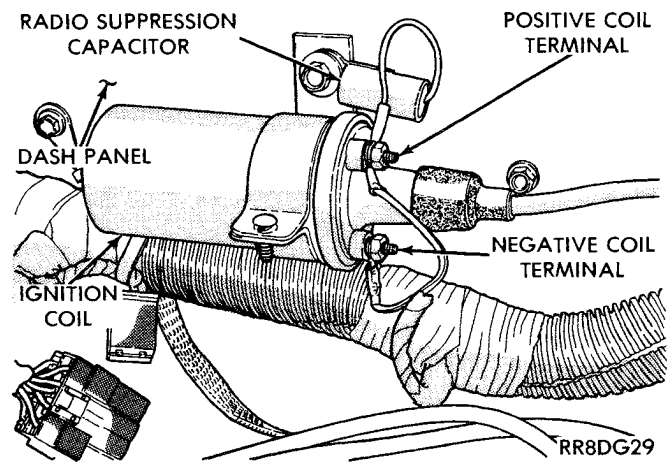

Fig. 2—Coil Terminals
(1) Mount ignition computer to inside right front fender (Fig. 2).